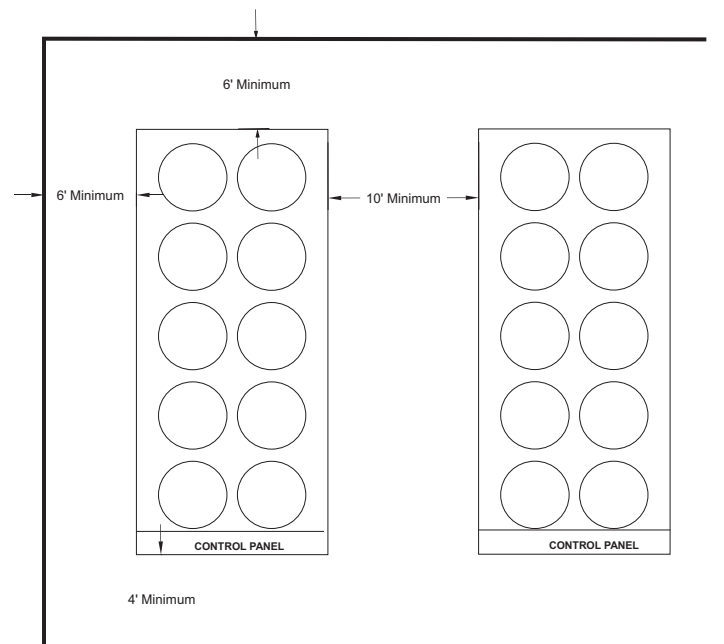

FIG 8. – ACCEPTABLE MINIMUM CLEARANCES AROUND/BETWEEN UNIT(S) FOR PROPER AIRFLOW
The YVAA chillers are designed for outdoor installation. To achieve optimum performance and trouble-free service provide adequate space around chillers (see Figure 8). When selecting chiller installation sites, follow these requirements:
2. Provide space for air to flow into condensers per Figure 8. Restricted airflow or hot air recirculation will diminish performance. Johnson Controls' unit controls will optimize the operation without nuisance high pressure safety cutouts; however, the system designer **MUST** consider potential performance degradation. Recommended clearances for all units are as follows: